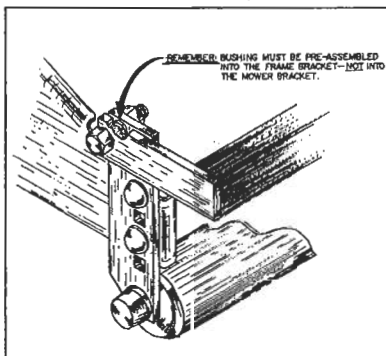

FIG. 8
- F) Tighten nylok nut with socket or crescent wrenches. **FIG. 8**